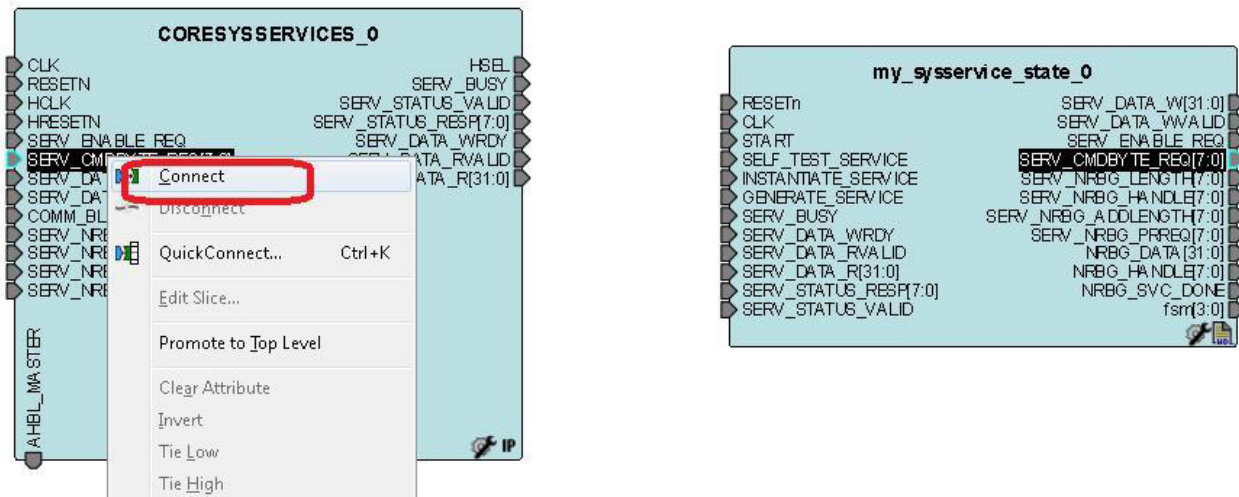

Figure 22 Connecting Ports Between CoreSysServices_0 and my_sysservice_state_0
- Select the two signals you want to connect using the CTRL key, then right-click and select **Connect** to connect them, as shown in Figure 22.